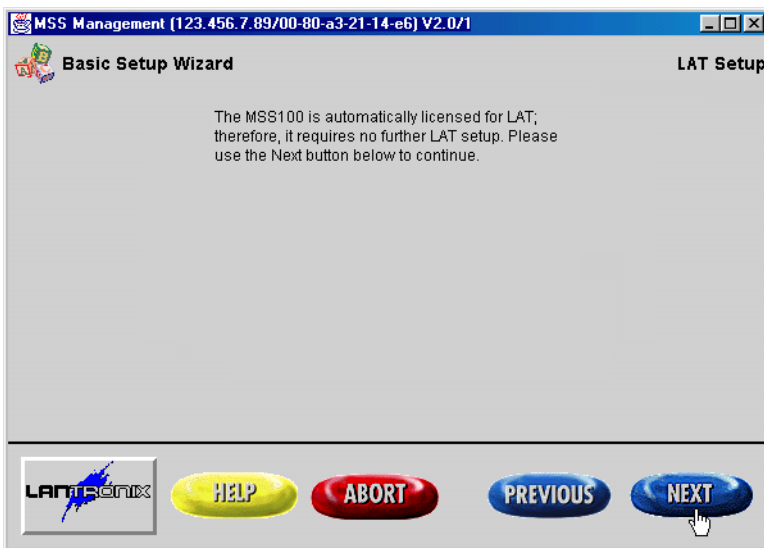

Figure 22 - LAT Setup Window
20. Click the  button. The LAT Setup window appears (see Figure 22).